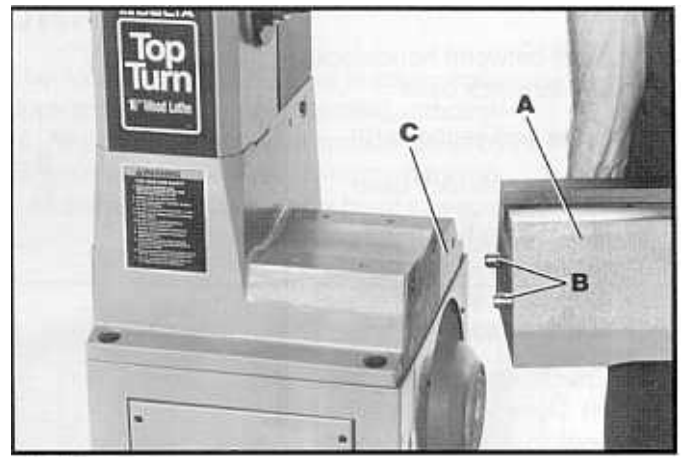

Fig. 5
1. Locate one of the lathe bed sections (A) Fig. 5, and line up pins (B) with matching holes on side of headstock casting (C) as shown. **WARNING: Support outboard end of lathe bed section (A) during assembly.**